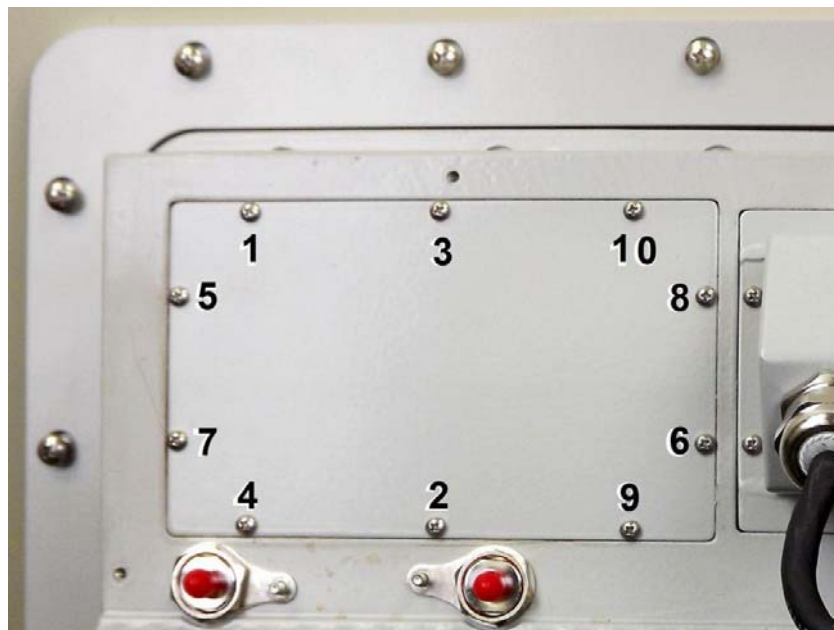

Figure 7.17 SSD Cover Plate Incremental Screw Tightening Order
6. Secure the cover plate in place by tightening the 4-40 cover screws to 0.7 Nm (6 in-lbs) in an inside-to-outside crisscross pattern using the incremental order shown in Figure 7.17 to ensure the plate seals correctly.